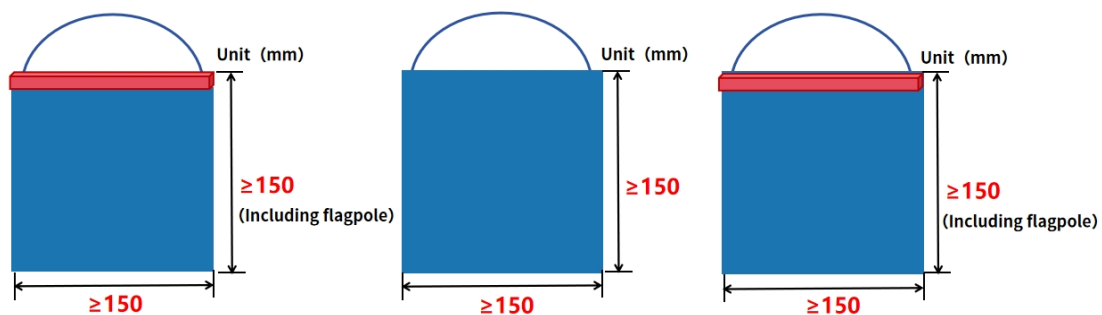

Fig 5.2 Netflix Flag
- The structure and shape of the flag should be referred as the Fig5.2. It must be a regular-shaped flag; Shaped flags cannot be produced and used.